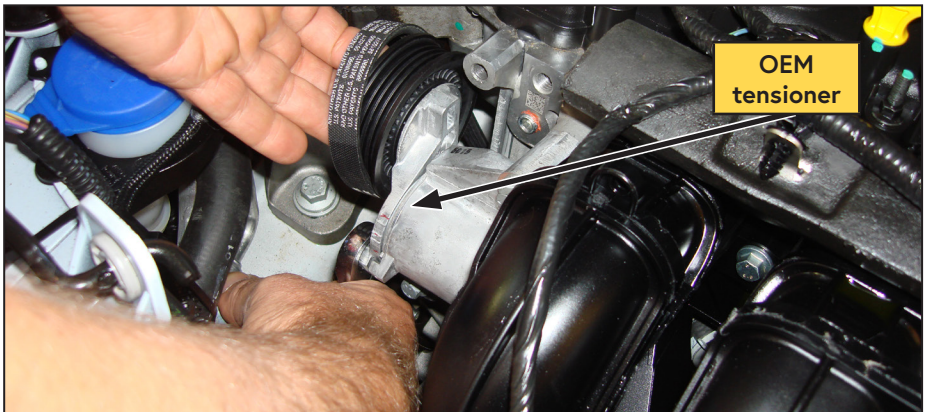

Figure 13 — OEM Tensioner
- Remove the OEM tensioner (Figure 13).